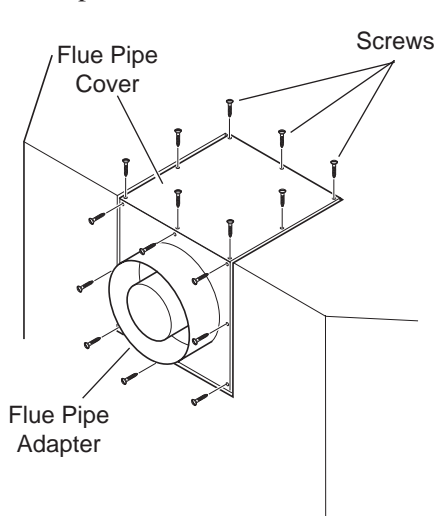

Figure 9 - Removing Screws from Flue Pipe Adapter and Flue Pipe Cover
1. Remove the eight (8) screws securing the flue pipe adapter to the fireplace body. *See Figure 9.*
3. Remove the eight (8) screws securing the flue pipe cover to the top of the intake box and remove the cover and gasket. *See Figure 9.*